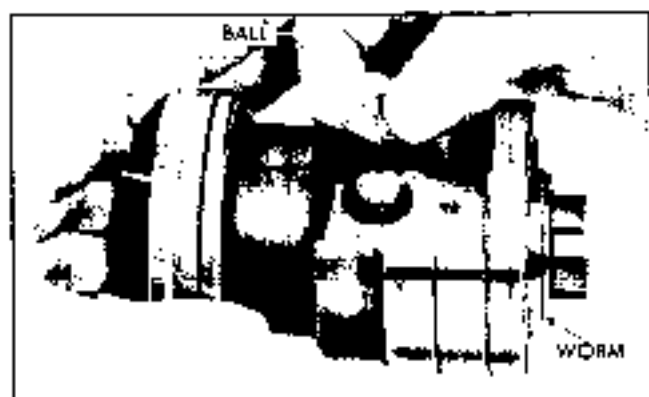

Fig. 9-64 Loading Rack-Piston Nut
2. Insert worm into rack-piston nut to bearing shoulder (Fig. 9-64).